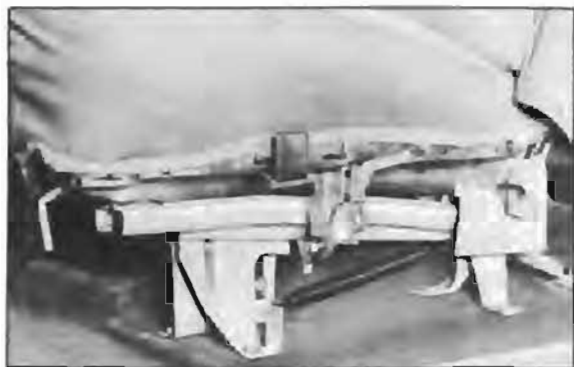

Figure 13-40—Front Seat Adjuster
2. Remove bolts attaching the four seat adjuster supports to body floor pan. See figure 13-40.